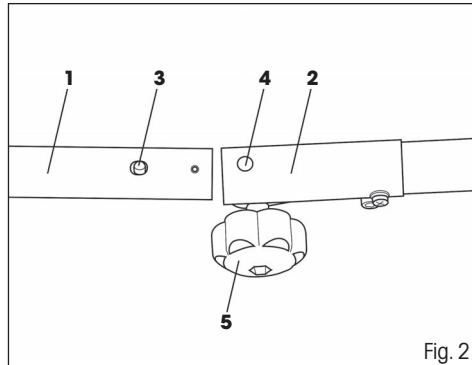

Fig. 2
- ❁ Connect the shaft of the brush cutter (Fig. 2). Insert the bottom part of the shaft (Fig 2, point 1) into the coupling (Fig 2, point 2), which is a part of the top part of the shaft. The locking pin (Fig 2, point 3) must fit into the hole (Fig 2, point 4). Then secure both parts in place by tightening the screw (Fig 2, point 5). For easier transport of the brush cutter, the shaft can again be separated.